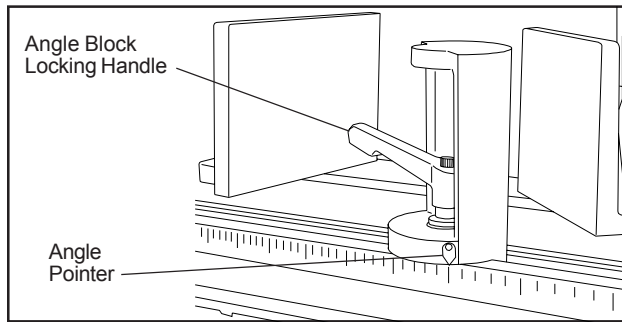

Figure 7: Angle setting block
2. Turn the locking handle on the round, angle-setting block counterclockwise to unlock the block. Slide the block until the pointer on the block is aligned with desired angle (see figure 7). Tighten the locking handle to set the angle.